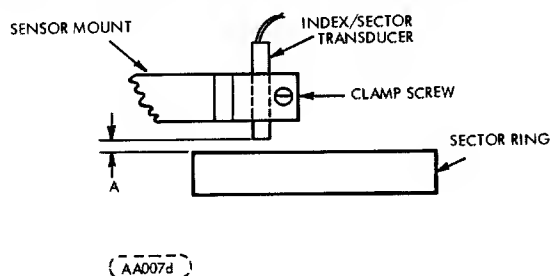

FIGURE 6-23. FIXED DISK INDEX/SECTOR TRANSDUCER ADJUSTMENT
6. Using plastic shim stock, check clearance A (Figure 6-23). Clearance should be between $0.010 + 0.003$, -0.000 inch ($0.25 + 0.076$, -0.000 mm). If clearance is out of tolerance, loosen transducer clamp and slide transducer in or out to adjust for proper clearance.